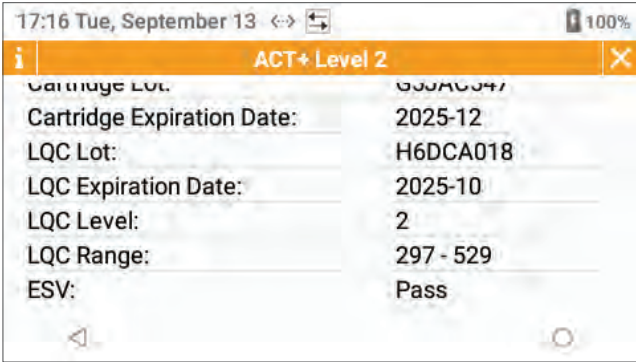

Figure 73: LQC Result Details
- **View details of the test result** – Select **Result Details** (Result Details) and detailed information about the test result is displayed (Figure 73). **NOTE:** The test result date refers to the test start date and time, not the time the test result was sent or completed.